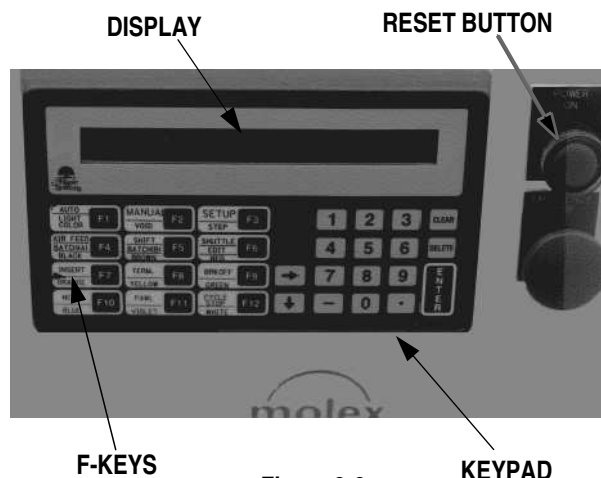

Figure 2-6
2. Press the green “POWER ON” button on the upper right corner of the control cabinet. The button should light up. See Figure 2.6.